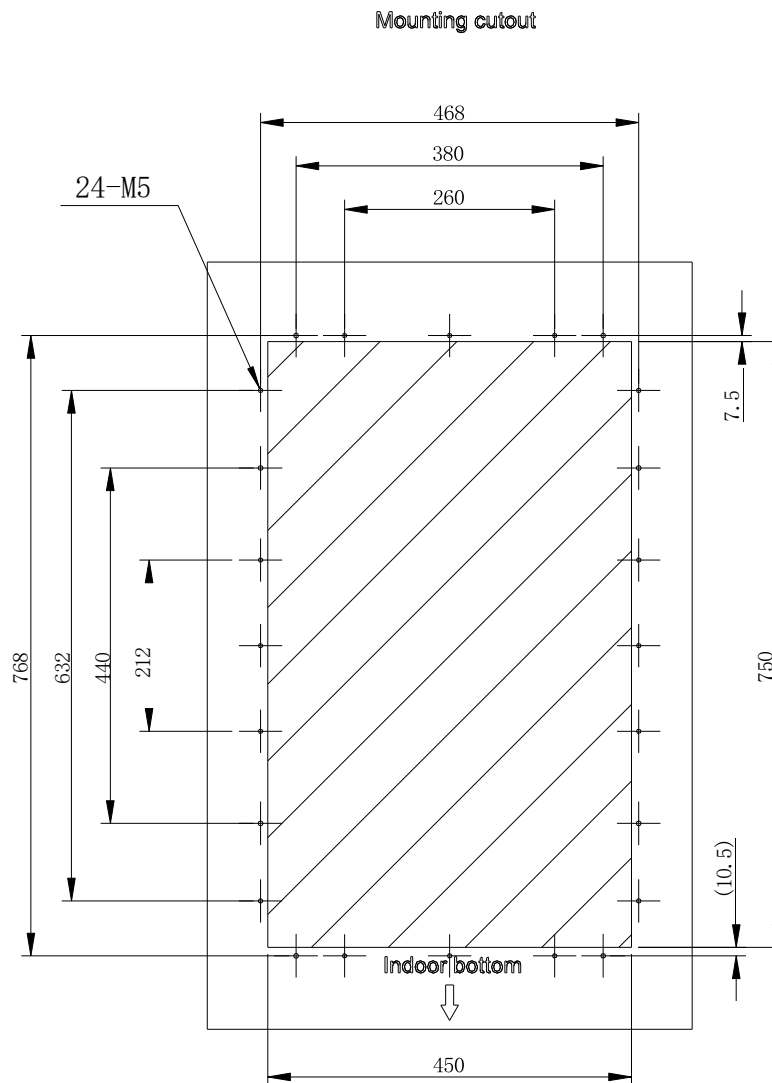

Fig.2.1 Schematic diagram for installation dimension
4. Refer to Fig.2.1 for relevant installation dimension.